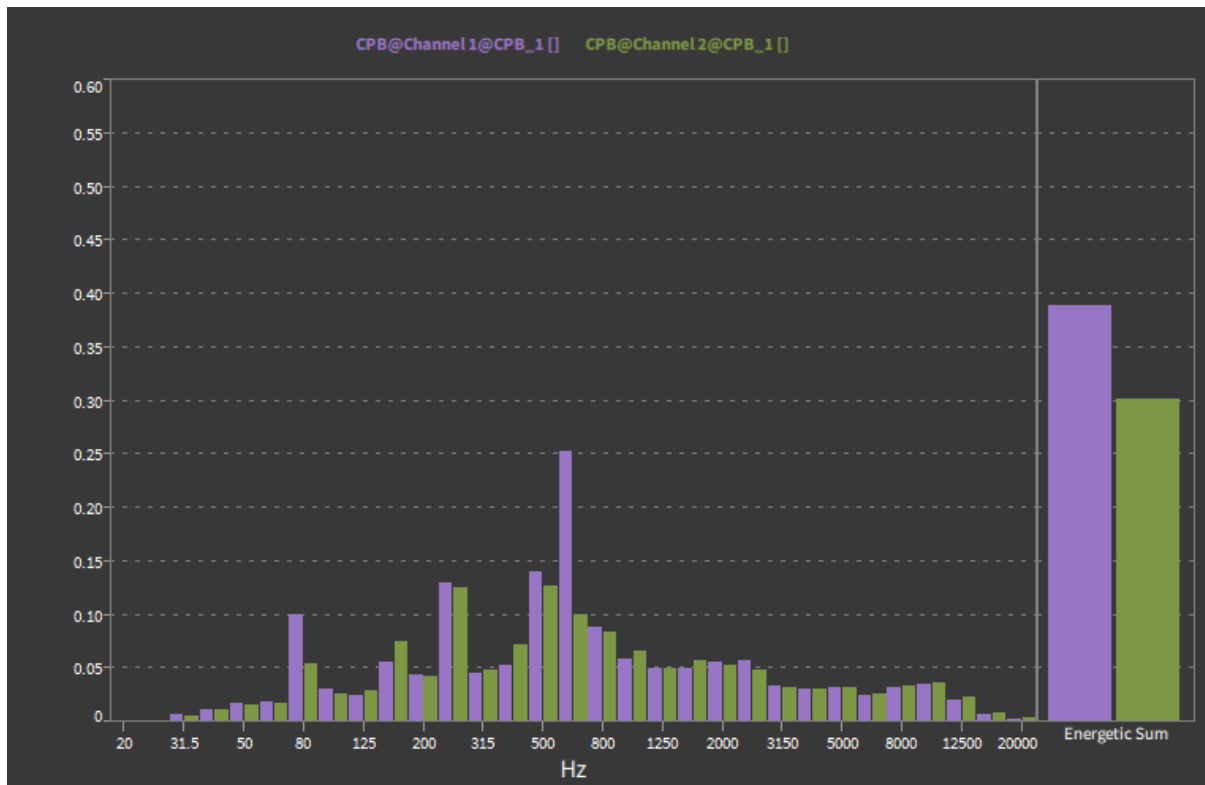

Fig. 8.47: Array Chart with *Total* column included
- **Total Computation:** It is possible to include a *Total* column (see Fig. 8.47) on the right hand side that display the following value: